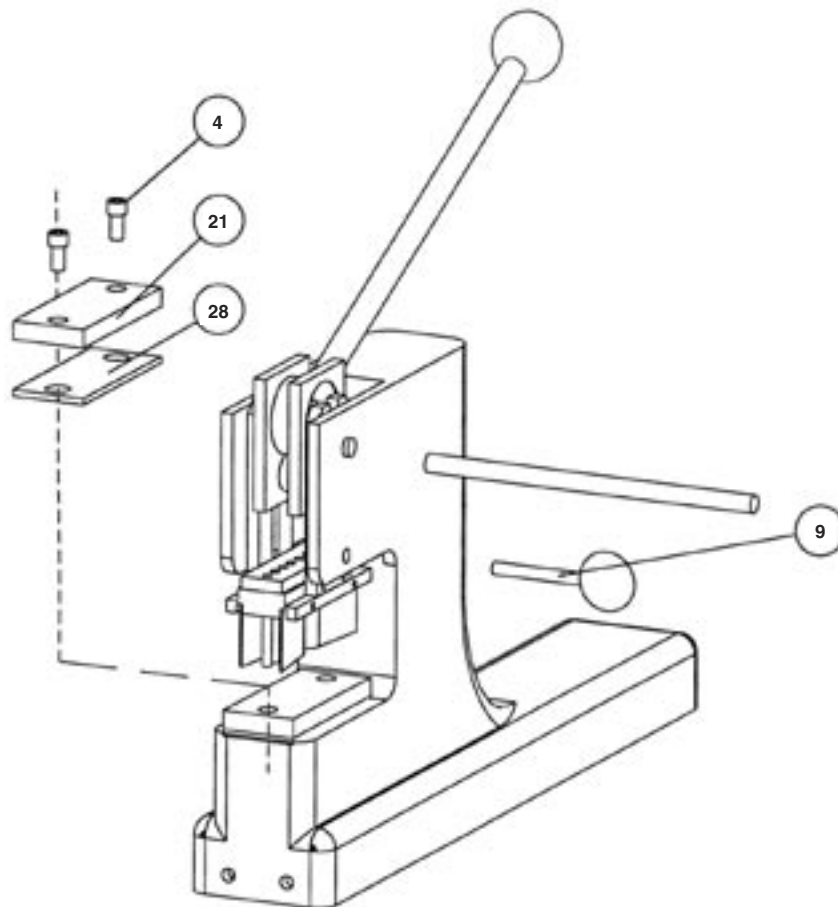

FIGURE 1 – CUTTING BLOCK CHANGE INSTRUCTIONS
1. Remove the ring grip self locking pin (Fig. 1 – Item 9).
4. Loosen the two ¼-20 x ½ socket head cap screws (Fig. 1 – Item 4) by using the ⅜" Allen wrench (largest in the maintenance kit).
5. Slide the cutting block (Fig. 1 – Item 21) forward and remove it from the base unit. Do not remove the rubber cushion.
6. Place the new cutting block (Fig. 1 – Item 21) on top of the rubber cushion (Fig. 1 – Item 28).
7. Insert the two ¼-20 x ¼ socket head cap screw (Fig. 1 – Item 4) through the cutting block and rubber pad and into the cutting block until the cutting block is snug. **DO NOT OVERTIGHTEN THE SCREWS!**
8. Rotate the cam handle and knob (Fig. 3 – Items 11 and 12) toward the front of the machine, being careful to line up the grip pin holes. Insert the ring grip self-locking pin (Fig. 1 – Item 9) through the entire assembly.